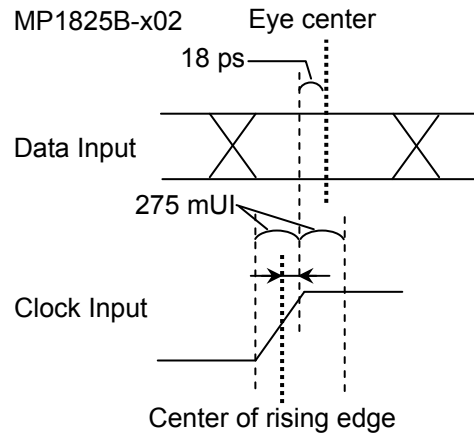

Figure 3.3-2 Phase Difference Between Data Input and Clock Input (MP1825B-x02)
Adjust the phase difference between data and clock to be input to Data Input and Clock Input, as shown in Figure 3.3-2. In case of MP1825B-x04, the phase difference can be auto-adjusted by using the Data/Clock Adjustment function.
- Adjust the phase difference between data and clock to be input to Data Input and Clock Input, as shown in Figure 3.3-2. In case of MP1825B-x04, the phase difference can be auto-adjusted by using the Data/Clock Adjustment function.